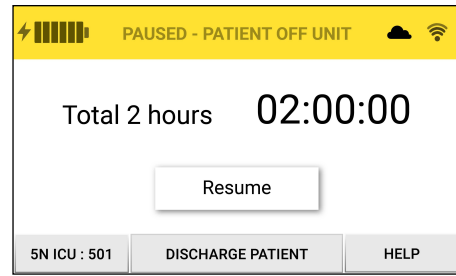

Figure 8. Paused - patient off unit screen
5. The Paused - Patient Off Unit screen will display the new remaining pause time and indicate that the patient is off unit for an extended period of time. (Fig. 8)